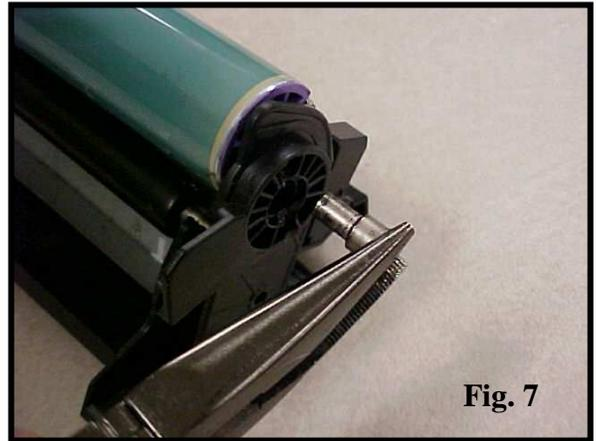

Fig. 7
7. Use pliers to remove the drum axle (Fig. 7). Once the axle is removed, remove the drum.